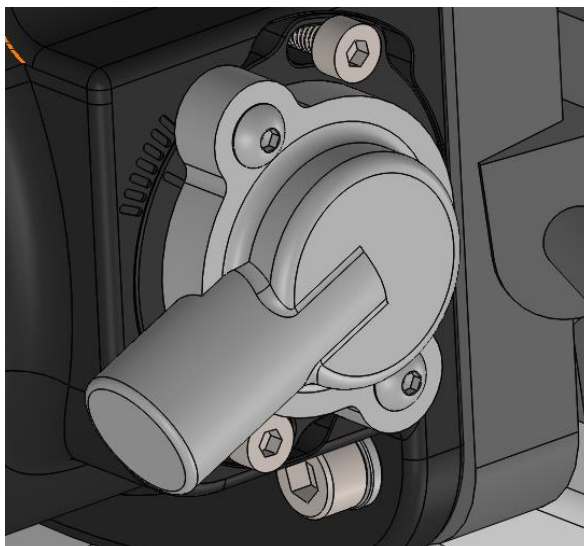

Figure 2: TPS configuration
7. Fasten the TPS as shown in figure 2 using 2x M4 button head screws and torque to 2.5 Nm while using a low strength loctite.